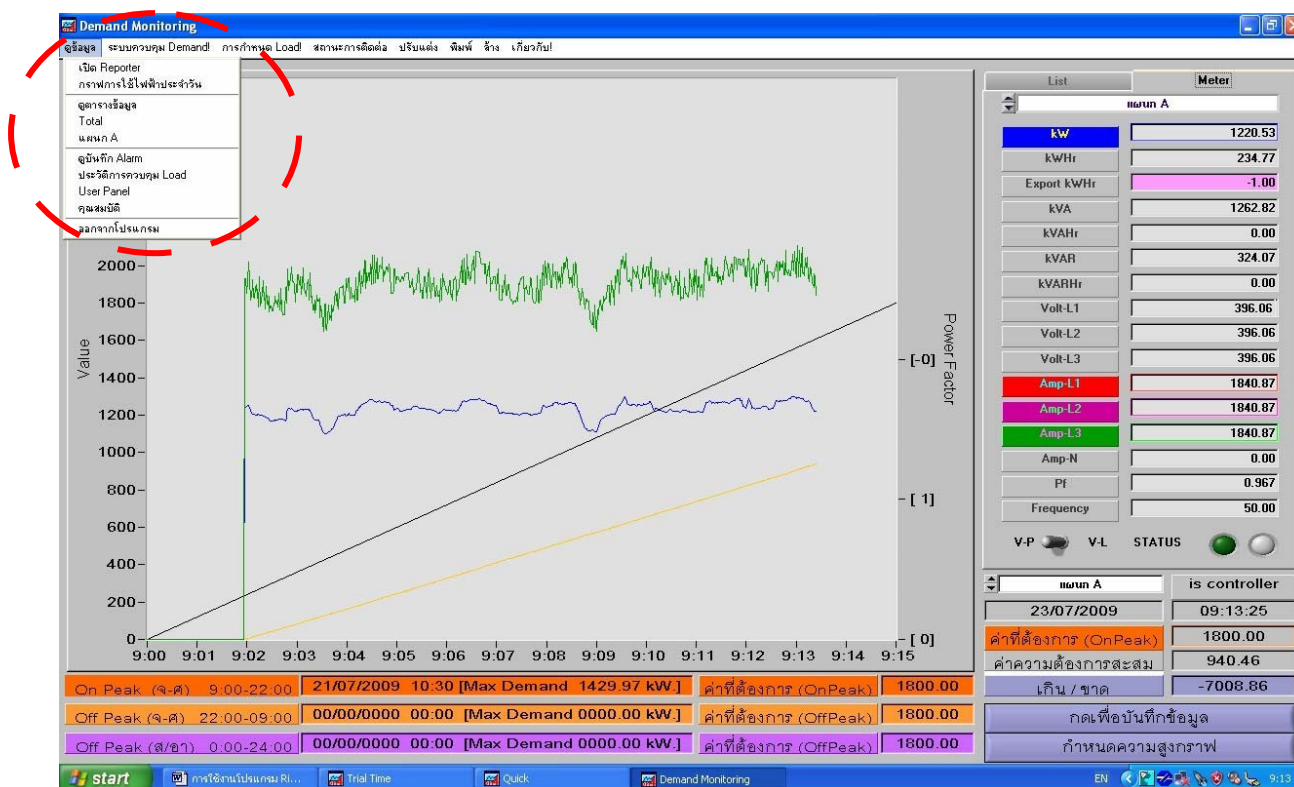

Figure 14
2.1.4 To view a graph of electricity daily. This method can not be viewed as a Real time, but there are advantages. We know that We use electricity during periods of high or low. which can turn any graph of electricity daily. From the menu **View graph of electricity daily**. Figure 14 is show in Figure 15.
2.1.5 To view the table The value of the electricity grid data. The reading will be Real time which can be opened by clicking the View / Table View Figure 14 is shown in Figure 16.